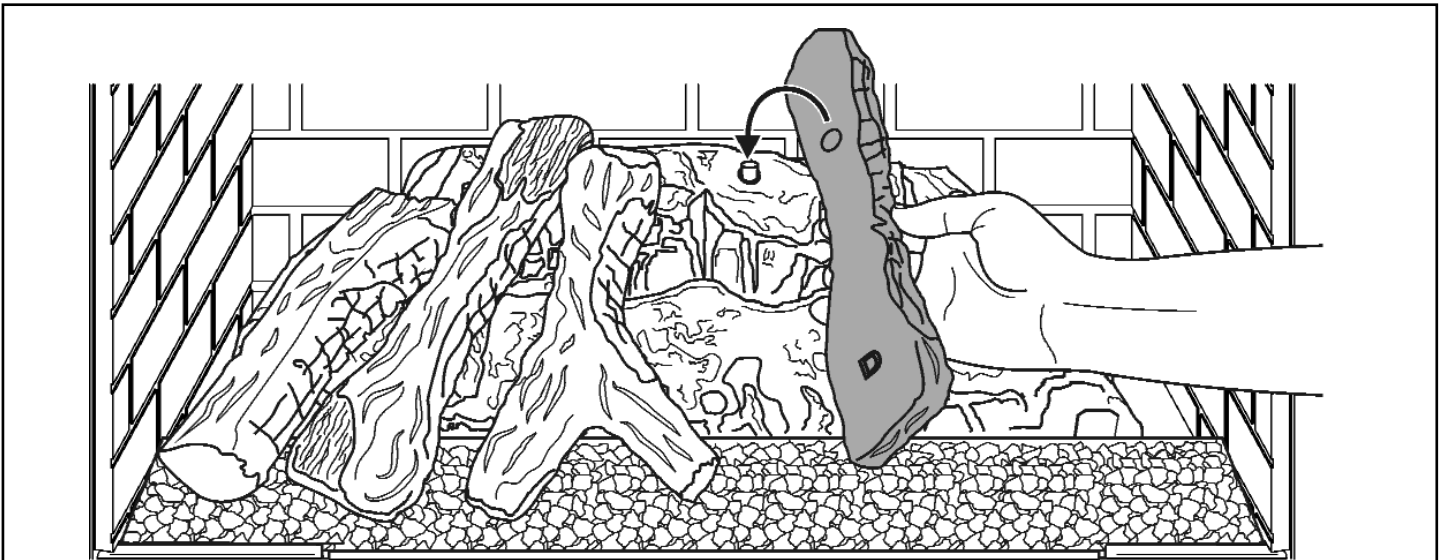

Figure 7. Fitting log 'D'
7. Remove log 'D' from its protective packaging and position it as shown in figure 7. Locate the hole in the base of log 'D' onto the peg on top of the rear base.